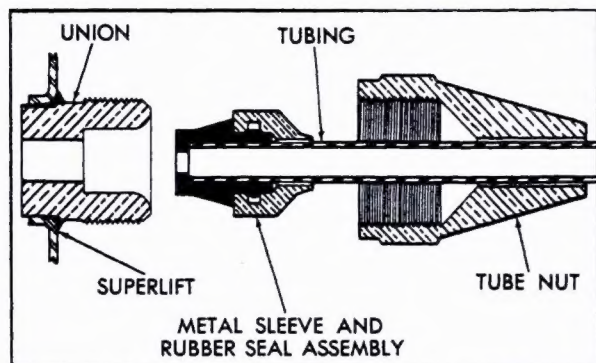

Fig. 4-7 Typical Tubing Fitting
1. Preassemble metal sleeve and rubber seal, Fig. 4-7.